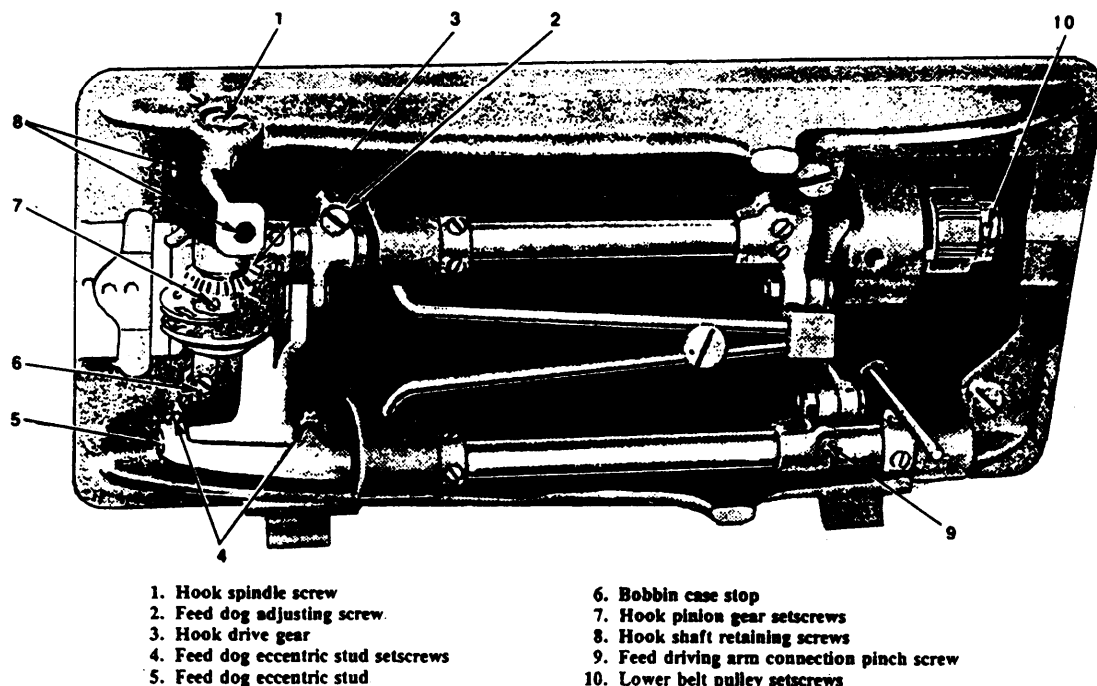

Figure 9-41.—Adjustments in the bed of the machine.
Turn the balance wheel toward the operator's side until the needle bar is all the way down and has risen until the lower timing mark is just visible below the needle bar frame. Loosen the setscrews (10) in the lower belt pulley (fig. 9-41) and set the hook point to the center of the needle eye. Retighten the setscrews.
Loosen the two hook shaft retaining screws (8) (fig. 9-41) and the two screws in the hook pinion gear (7), and slide the hook to the correct position. Retighten the hook shaft retaining screws. Set the gear in the proper place on the shaft—gear aligned with hook drive gear—and
The feed dog should show a full tooth above the throat plate when at its highest position. To adjust the dog, remove the throat plate and make sure all lint, dirt, or other obstruction is removed, then replace the throat plate. Turn the balance wheel forward until the feed dog is at its highest position; then loosen the feed dog adjusting screw (2) (fig. 9-41), and raise or lower the feed dog as required. Retighten the adjusting screw to hold the feed dog in position.
To prevent the feed dog from striking either end of the slots in the throat plate, loosen the pinch screw (9) (fig. 9-41) and move the feed dogs forward or backward (as necessary) until the longest stitch can be taken without striking the throat plate.